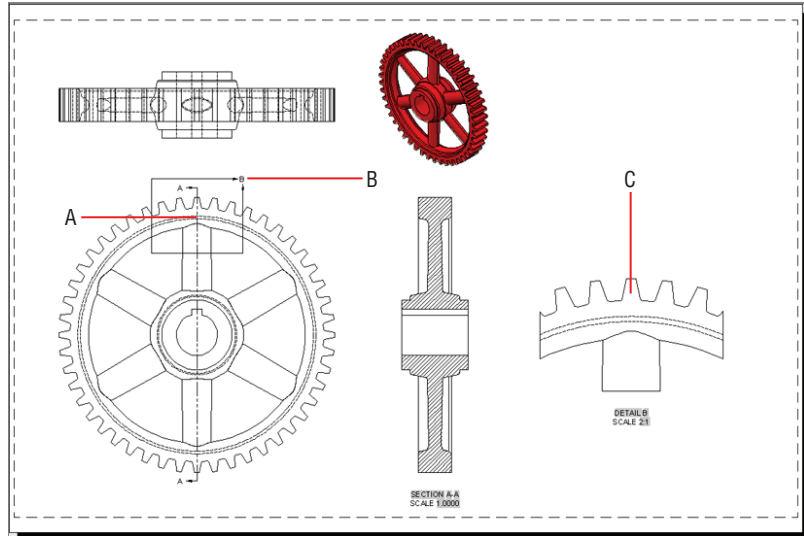

FIGURE 18.25 Creating a detail of the base view
12. Open the Detail drop-down on the Create View panel and select Rectangular. Toggle off object snap in the status bar. Select the original drawing of the gear as the parent view. Click points A and B shown in Figure 18.25 to draw the detail area and press Enter. Click point C to locate the detail view, and press Enter to end the VIEWDETAIL command.